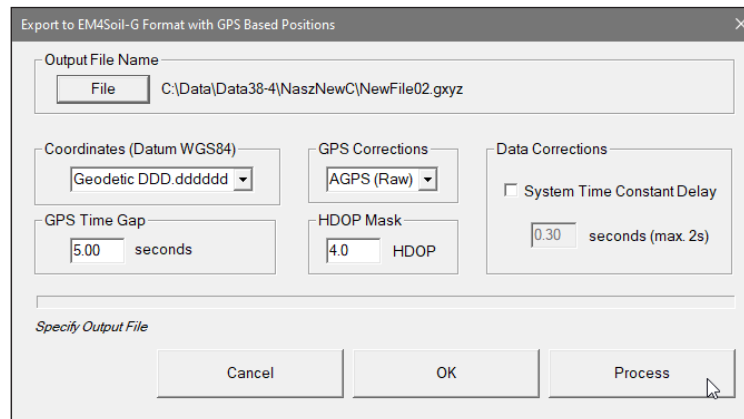

Figure 2.23 Export to EM4Soil-G Format with GPS Based Positions dialog
- Select **Export Files | Create GPS-Positioned EM4Soil-G File** to open the Export to EM4Soil-G Format with GPS-Based Positions dialog (Figure 2.23).